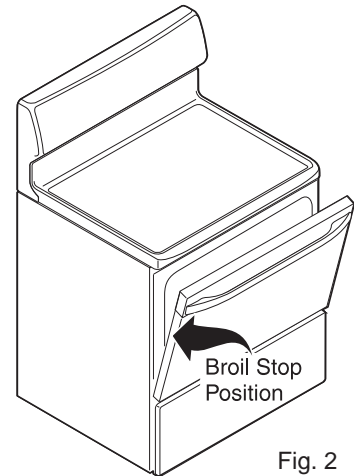

Fig. 2
3. When using 2 oven racks at the same time, place in positions 2 & 5 for best results (See Fig. 2)
6. Place the broiler pan and insert on the oven rack (if equipped). **Open the oven door to the broil stop position when broiling** (See Fig 2).